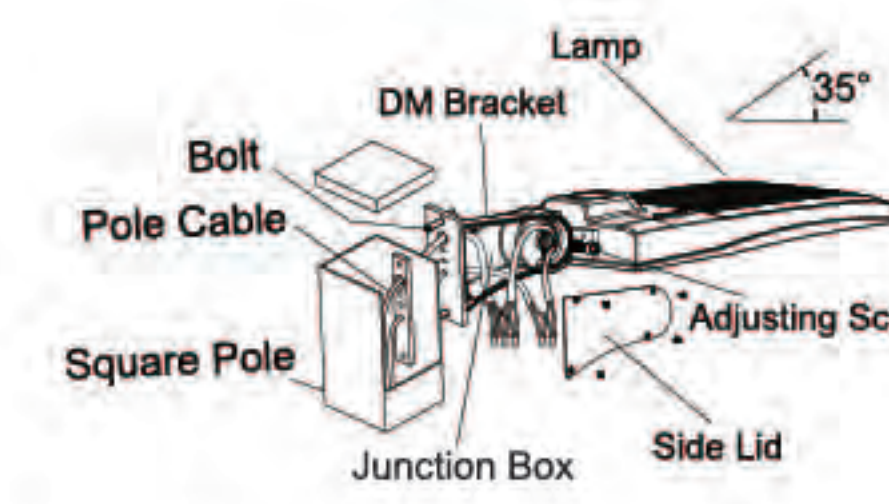
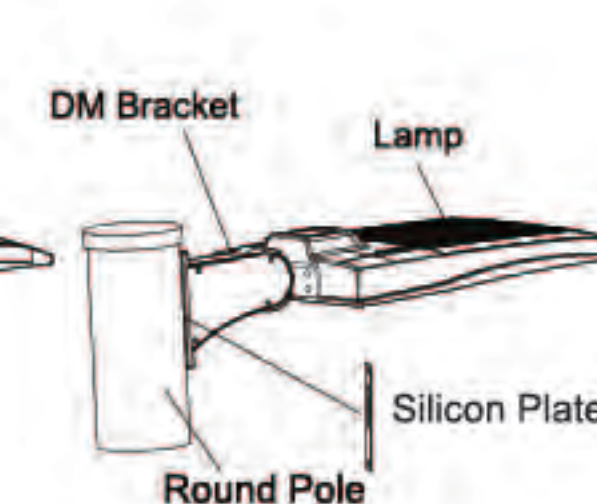

Figure 13
Figure 15
2. DIRECT MOUNTING (DM)
- Step 1: Fix DM bracket to square pole with bolt, open the side lid of DM bracket, pull the wire into junction box, and connect the wire correctly. (Figure 13)
- Notice: Adjustable angle is 0-35° (Figure 13). Same as round pole installation, please remember to remove the silicon plate when install the fixture in round pole (Figure 15)